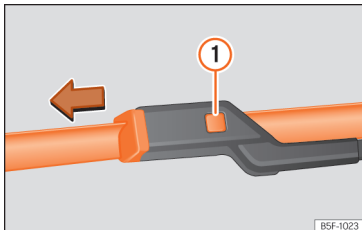

Fig. 42 Changing the windscreen wiper blades
- Press and hold release button » » » Fig. 42 ① and pull gently on the wiper blade in the direction of the arrow.